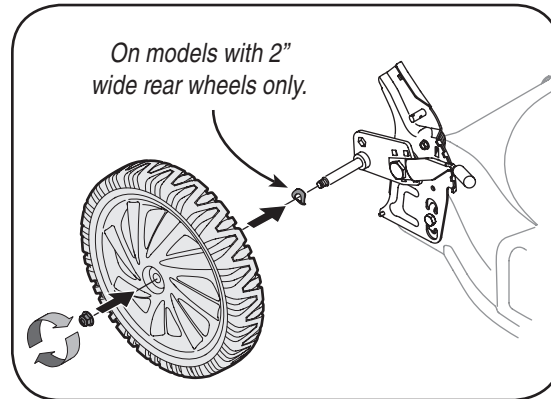

Figure 1
- c. On models with 2" wide rear wheels, make sure the spring washer is on the inside of the wheel between the wheel and the lawnmower, cupped side towards the bracket. See Figure 1.